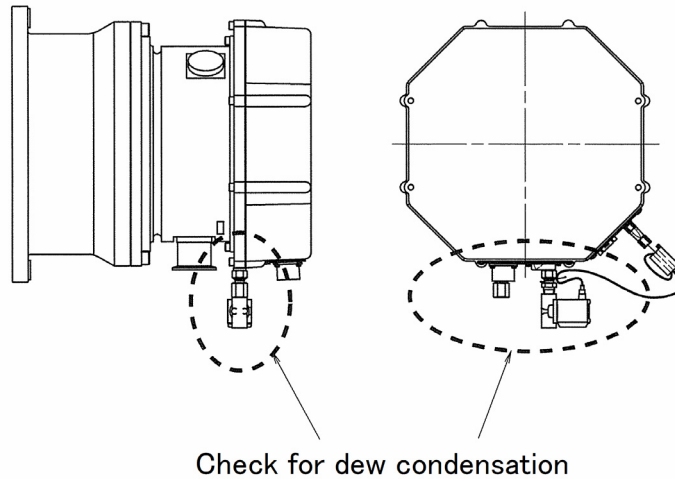

Fig.5-12 Locations to Check for Dew Condensation
- (1) This product is a water cooled model. Always provide a flow of coolant water that meets the indicated specifications. (Note 1)
- (2) Make sure no water is leaking from the coolant lines. Do not spill coolant on the pump.
- (3) Confirm the cable from water valve is surely connected to VALVE connector of External I/F panel.
- (4) Make sure that there is no condensation and not high humidity environment. Do not switch the power supply unit ON with condensation at the location indicated in Fig. 5-12.
- (5) If dew condenses inside controller during operation, dew warning turns on and the water valve is turns off so that the coolant water should not enter in the pump. If the dew is not disappeared for a while, dew alarm turns on and decelerate the motor to avoid a controller fault. Please use it at the temperature that the dew condensation is not generated and keep environment humidity low. Refer to Section 9 "TROUBLESHOOTING" for the alarm. Even if the power supply unit is OFF, do not flow coolant through it that is below dew point.
- (6) Connect the power cable to AC connector of control panel.